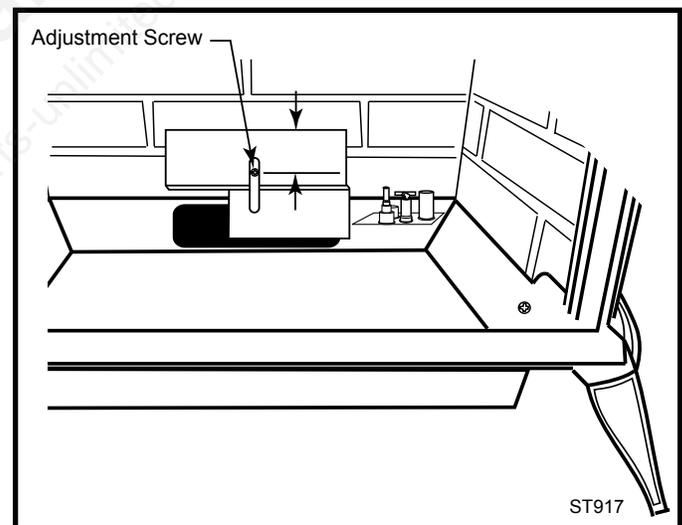

Fig. 9 Loosen screw to adjust restrictor plate.
The Radiance stove is shipped with a restrictor plate in the Parts Bag. Adjustments can be made by loosening the adjustment screw to allow the restrictor plate to slide up or down. (Fig. 9) A guide for usage is shown in Figure 10.
2. Install restrictor plate as shown in Figure 9 with cut out on left side. Secure with adjustment screw.
2. Measure from center of screw to top edge of diverter (Fig. 9) to adjust plate according to guidelines in Figure 10.